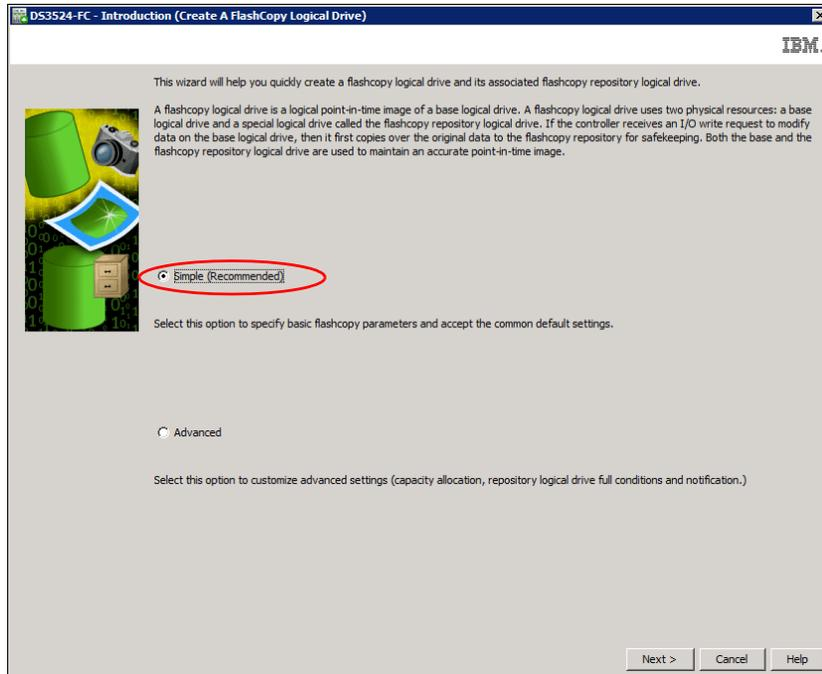

Figure 2-6 Create FlashCopy Logical Drive Wizard Introduction: Simple
The introduction window (Figure 2-6 on page 23) defines what a FlashCopy logical drive is and the physical components that are associated with a FlashCopy logical drive.
This path proceeds to the Specify Name panel, which provides a preview of the FlashCopy and repository default names. You can also change the defaults on this panel. If you select this path (shown in Figure 2-6), go to step 3.
3. If you select the simple path, as shown in Figure 2-6, click **Next**, and perform the following steps: